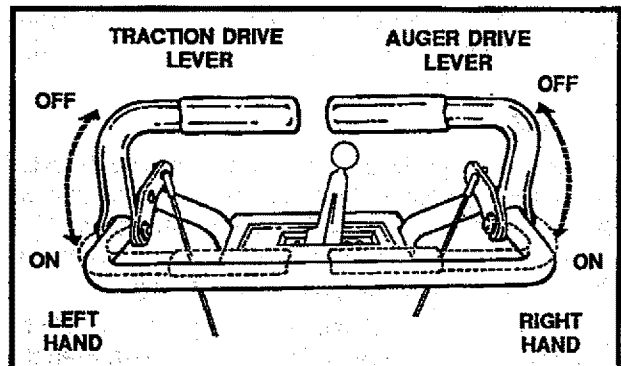

FIG. 11
- To stop throwing snow, release the auger drive lever (See Fig. 11).
- Engage the traction drive lever (See Fig 11, left hand). As the snow thrower starts to move, maintain a firm hold on the handles, and guide the snow thrower along the clearing path. Do not attempt to push the snow thrower.
- Push down the auger drive lever (See Fig. 11, right hand).